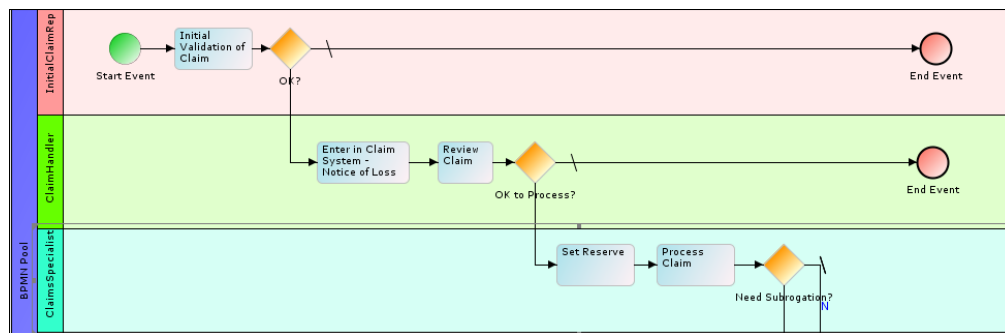

Figure 33: New Color for Swim Lane
3. Select the color for the selected swim lane and click **OK**. This changes the label and background color for the selected lane (see Figure 33).